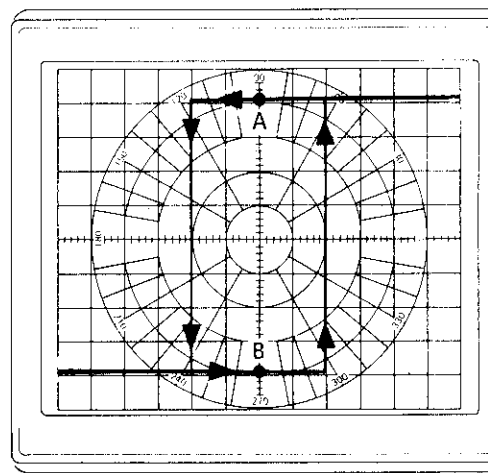

Figure A2-22. Hysteresis Loop of Phase Trace
- d. Set SCAN TIME SEC to MANUAL. Sweep through the transition in both forward and reverse direction using the Manual sweep control. Note the hysteresis loop as shown in Figure A2-22.
- e. Adjust both CW FREQUENCY and  $\pm\Delta F$  FREQUENCY to make the hysteresis loop six divisions wide and centered on the vertical center line of CRT. (See Figure A2-22.)
- f. Press Channel 1 DISPLAY MKR. Center trace dot on the vertical center line at point "A" on Figure A2-22 trace. The marker readout should be  $+180$  degrees  $\pm 3.3$  degrees.
- g. Center trace dot on the vertical center line at point "B" on Figure A2-22 trace. The Channel 1 marker readout should be  $-180$  degrees  $\pm 3.3$  degrees.